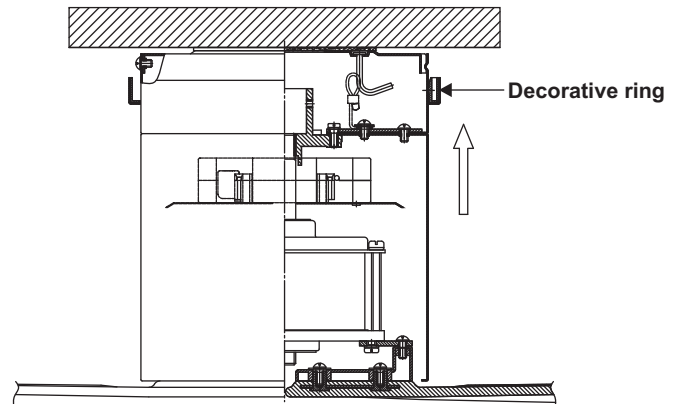

Figure 14
Step 2. Raise up decorative ring and line up the four tabs with the four grooves on the motor housing. Once lined up, slide the decorative ring up to the motor housing until snug. (Fig. 14)